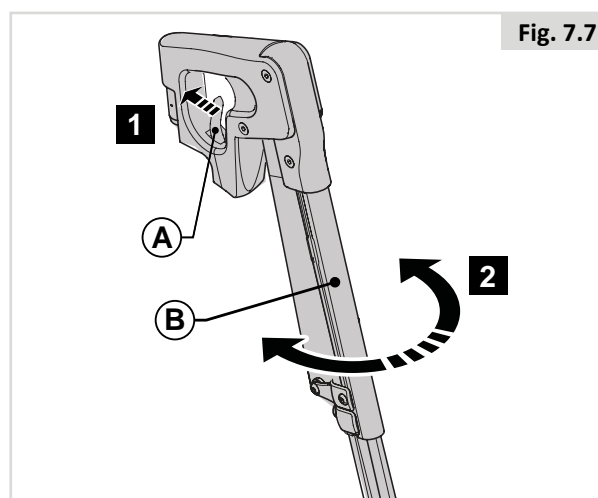

Fig. 7.7
7.6 Repose-jambe escamotables (Fig. 7.7)